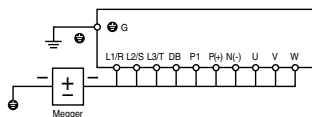

Fig 8-4-1
- 3) Connect the main circuit terminals with a common cable as shown in Fig. 8-4-1.
- 4) The Megger test must be limited to across the common line of the main circuit and the ground terminal (G).